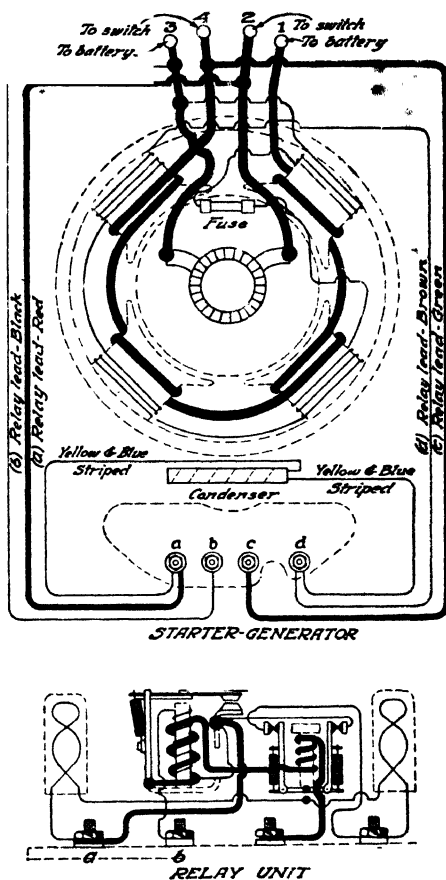
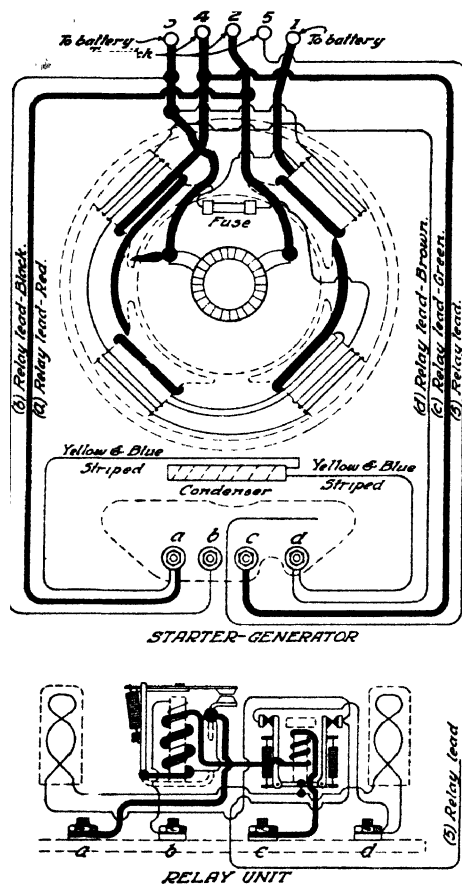

Fig. 304. Internal Wiring Diagram for North East Model "D" Starter-Generator
Fig. 305. Internal Wiring Diagram for Model "B" Starter-Generator
Looking at the starter-generator from the driving sprocket end, the main terminals 1, 2, 4, and 3 of the starter-generator are considered as being numbered in anti-clockwise rotation, Fig. 304. Viewing
**Five-Terminal Type Unit.** The connections on the five-terminal type generator-starter unit are made as follows: Looking at the starter-generator, Fig. 305, from the driving sprocket end, the main terminals 1, 5, 2, 4, and 3, respectively, of the unit are numbered in anti-clockwise rotation (to the left). Viewing the relay unit as
mounted on the starter-generator with the master relay at the left, the four binding posts *a*, *b*, *c*, and *d* are designated from left to right as shown in the illustration. Proceed with the instructions as given for the four-terminal type starter-generator as given. The new type relays 1196 and 1197 are regularly furnished with local connections, as shown in Fig. 304,
but it will be necessary to make the following alterations when applied to the five-terminal type starter-generator, so that the relay connections will conform to the diagram in Fig. 305. Remove the jumper lead that connects the frame of the master relay to the rear contact terminal on the limiting relay; remove from relay binding post *a* the left-hand resistance-unit lead. Lengthen this lead by splicing a piece of the same kind of wire to it, and solder it to the limiting relay contact terminal, from which the jumper has been removed. To this terminal must also be soldered the lead coming from starter-generator terminal 5. (In some starter-generators this lead includes the field fuse.)
The condenser in the early models is mounted between the field coils. One condenser lead must either be connected to the relay binding post *a* as shown in either Fig. 304 or Fig. 305 or be spliced to the wire leading to it. The other condenser lead must either be connected to the relay binding post *d* or spliced to the shunt-field wire leading to it.